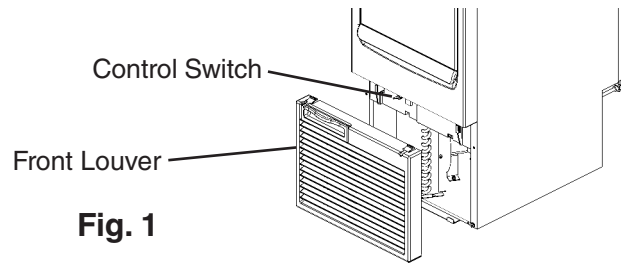

Fig. 1
- 1) Remove the front louver, then move the control switch to the "OFF" position. See Fig. 1. If plugged into an electrical outlet, unplug the icemaker from the electrical outlet.